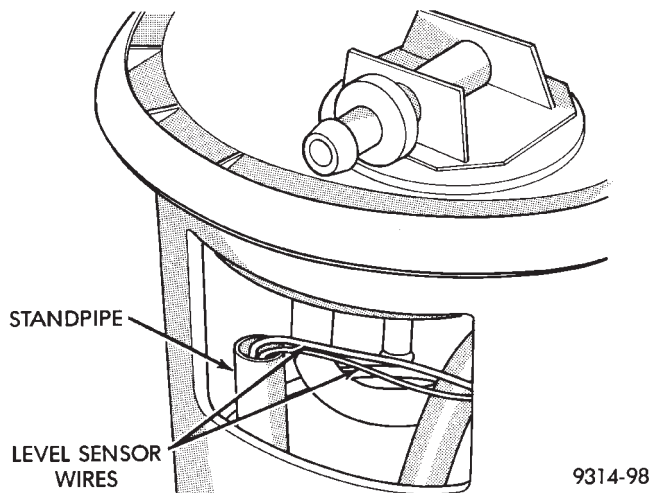

Fig. 14 Standpipe Inside Module
(5) Slide level sensor wires through standpipe inside fuel pump module (Fig. 14).